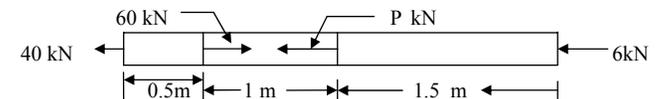

Figure.1.
- A steel bar of cross-section 500 mm^2 is subjected to the axial forces shown in Fig.1. Determine load P for equilibrium. Find the net total elongation of the bar. For steel $E=210$ GPa.